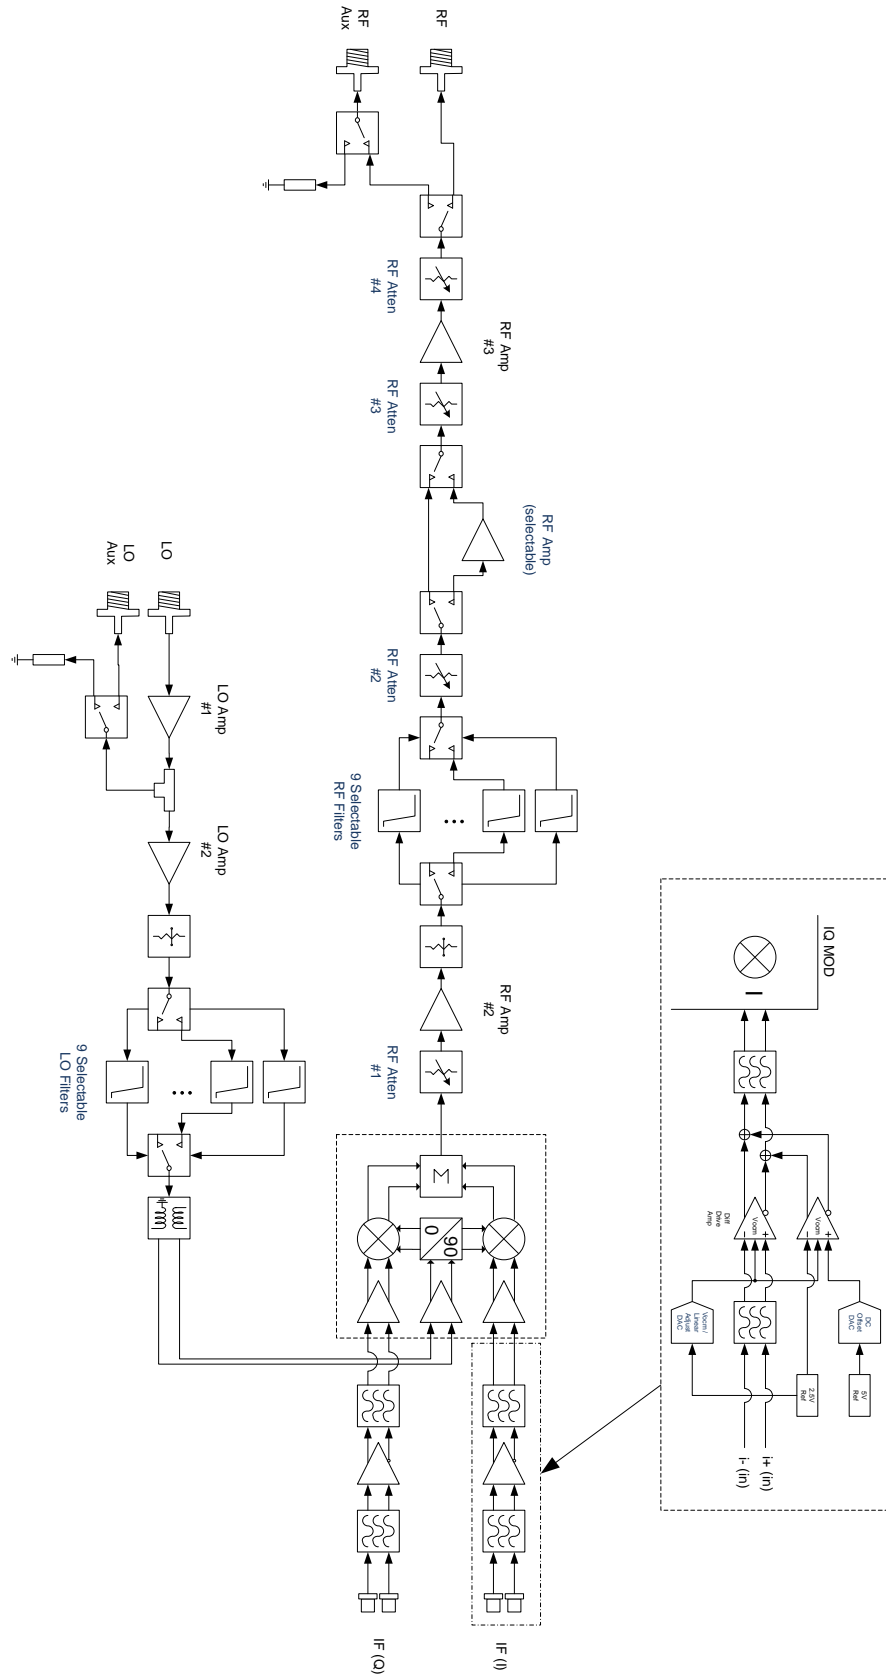

Figure 3. Simplified SC5413A block diagram.
The SC5413A is a single-stage, direct conversion Inphase-Quadrature (IQ) modulator. The modulator operates in the 400 MHz to 6 GHz RF range with a typical 3 dB IQ IF bandwidth of 320 MHz. IF signals are conditioned by input differential drivers prior to the IQ mixers. These differential drivers adjust the DC level and minimize the DC offset effects on the modulated RF signal. The RF output stage has adjustable gain to allow the user to adjust the signal levels, and also to optimize for signal dynamic range. The SC5413A has the necessary RF amplifiers, attenuators and IF amplifiers to give the user optimal control of the device over the entire frequency range. Figure 3 shows a simplified block diagram of the SC5413A, showing only the signal conditioning components critical for the following discussion. The following sections provide more in-depth discussion on how to optimize the converter for linearity and signal-noise dynamic range. Power supply generation and regulation, and digital control functions are not covered. Should the user require more information than what is provided in this manual, please contact SignalCore.
From Figure 3, the IF signals are first filtered by a 160 MHz filter, and then passed to the input differential drivers before being driven into the IQ mixers. The DC characteristics of the output of each differential driver are controlled by two 14 bit DACs. One DAC controls the driver common output voltage, while a separate DAC controls the DC offset of the differential output pair. The common output voltage has a range from 0V to 2.5V (DAC code 0 to 16383), and a differential voltage range of -50 mV to +50 mV (DAC code 0 to 16383, mid code is 0V). The common output voltage controls the bias to the mixer inputs, which affects the mixer linearity. The user may need to adjust this voltage to optimize linearity (IP3 and harmonics), which is dependent on IF input power level and the operating frequency. A typical bias voltage may range between 1 V and 3 V.